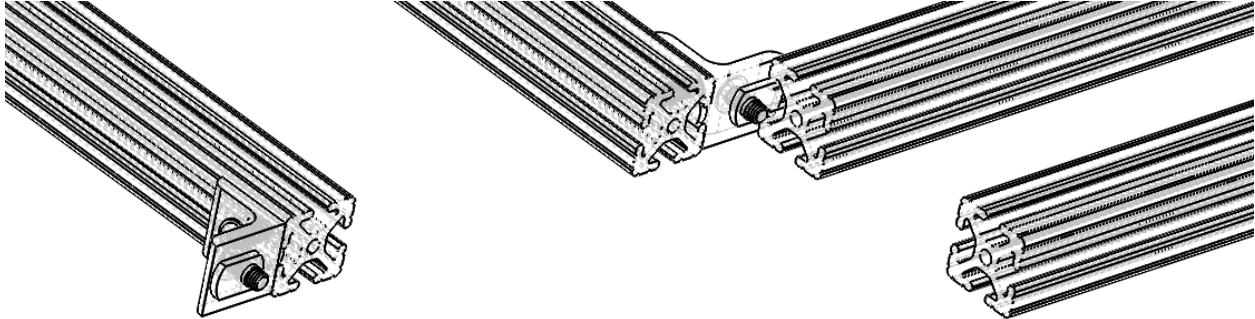

Fig. 3.14: 2 ft beam (#QDXE) with corner brackets sliding in one 4ft beam (#HJXQ).
- ❑ Take two **2 feet rails** (#QDXE) and insert one corner bracket, only on the left side of the one beam and the right side of another beam, see Fig. 3.14.
- ❑ Slide one **4 feet** beam (#HJXQ) to insert into the end-feed fasteners on the L brackets of these two **2 feet** beam (#QDXE), see Fig. 3.14.